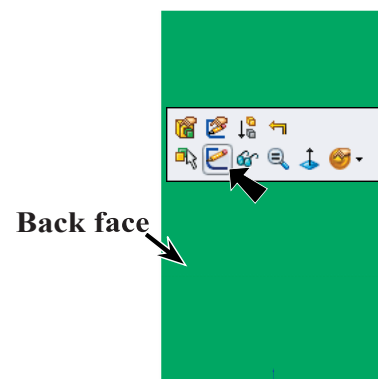

Fig. 7
Step 3. Click the **back face** of the body and click **Sketch**  on the Content menu, Fig. 7.